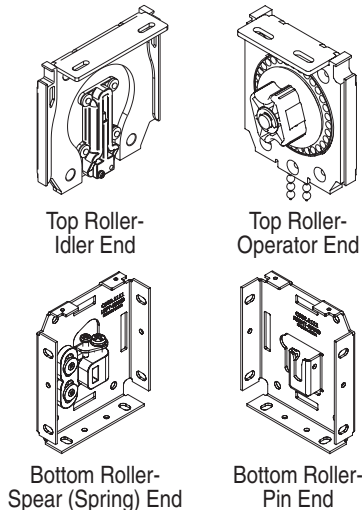

Figure 2
- ② Mark wall, jamb or ceiling for placement of mounting endcaps. If using headboxes, you will want to mount the endcaps through the headboxes.
- ③ Drill small starter holes (if necessary) in mounting surface.
- ④ Mount endcaps using appropriate fasteners for surface (see Fig. 2 for types). **The installer is responsible for selecting mounting hardware appropriate for site conditions.**